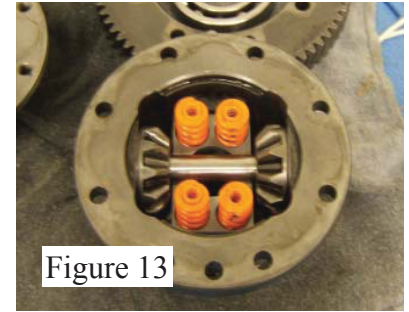

Figure 13
17. Place one of the TCS case halves (friction surface down) on top of the bottom side gear and between the spider gears. Then place the four large springs into the spring pockets on the back face of the TCS. Insert the four small springs into the inner diameter of the large springs and place them into the 4 spring pockets. See figure 13.